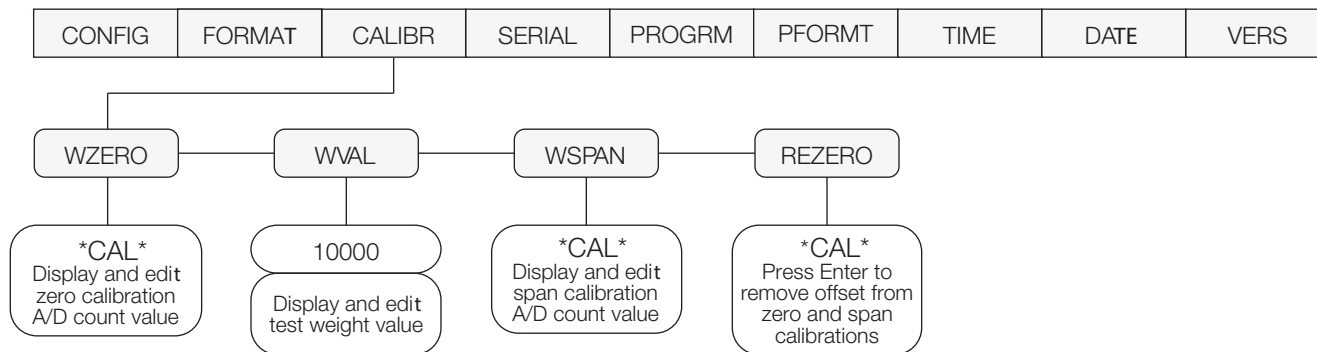

Figure 4-1. Calibration (CALIBR) Menu
2. Press \triangleright until the display reads **CALIBR** (see Figure 4-1). Press ∇ to go to zero calibration (**WZERO**).